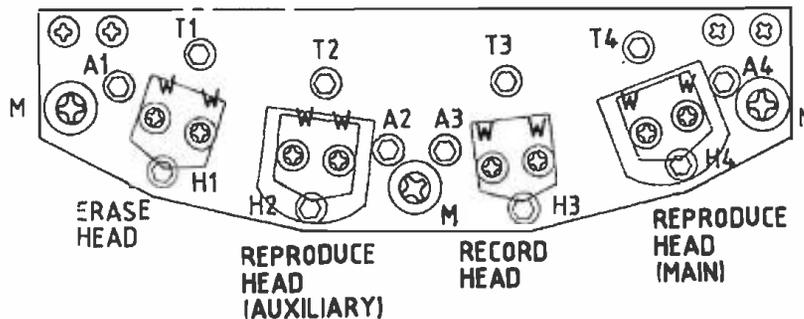

Fig. 5-6
- (1) Figure 5-6 shows head assembly of the MX-5050BII. Each head unit is supported with three screws and springs to the head mounting plate.